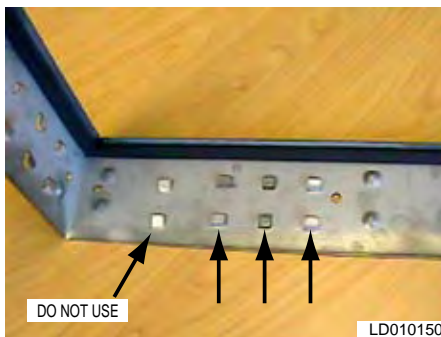

FIG. 2-106 – CORRECT USE OF KNOCKOUTS
- The latches should only be installed, two (2) per side of the frame. There should be no latches used on the top or bottom. This is done to match the holes in the filter frame, used to secure the latch to the filter. See Fig.2-106 for the sets of knockouts that should be used for the latches.